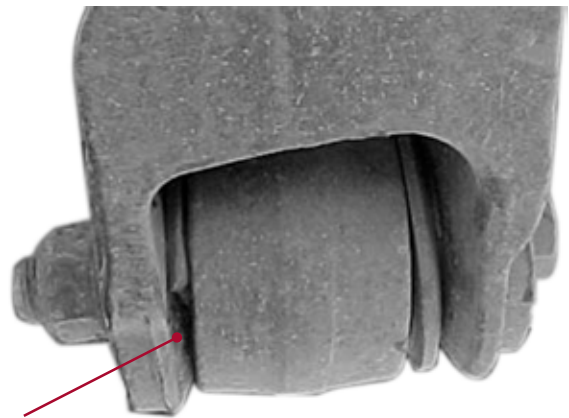

Figure 12: Missing Rubber Flange
- If the outer rubber flange(s) is missing, or there are shards of rubber visible, this could be a result of axle misalignment. If this condition is evident, pivot bush replacement is required. Refer Figure 12.